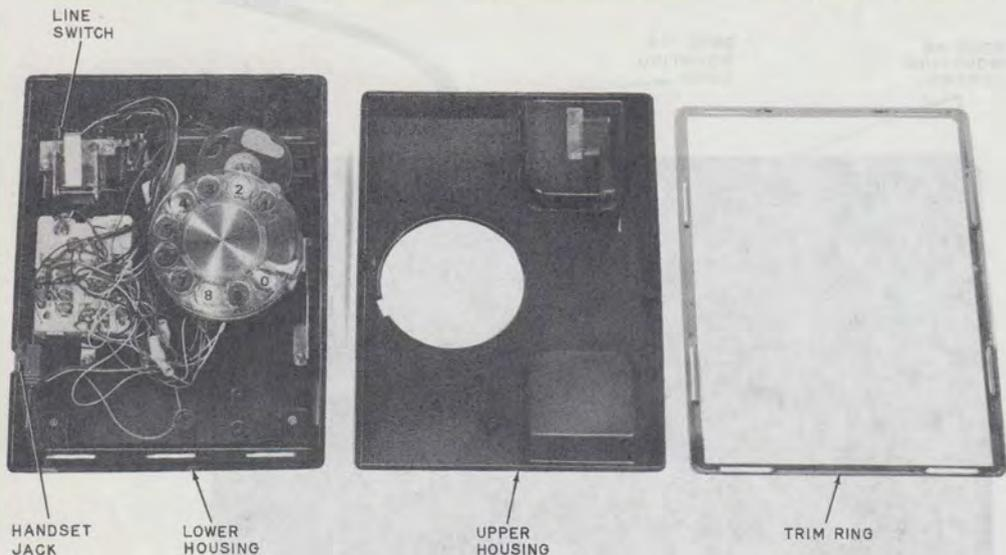

Fig. 4—900B Telephone Set With Upper Housing and Trim Ring Removed
3.07 If a polarity guard is required, mount the guard assembly to the two bosses located in front of dial on the lower housing (Fig. 4).